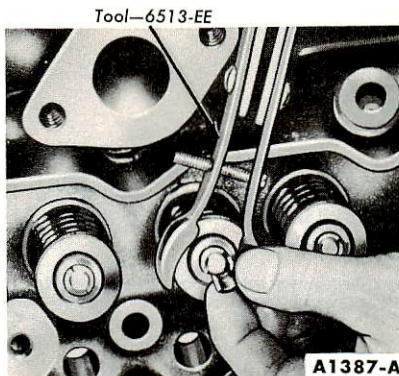

FIG. 36—Compressing Valve Spring
2. Compress the valve springs (Fig. 36). Remove the valve retainer locks and release the spring.